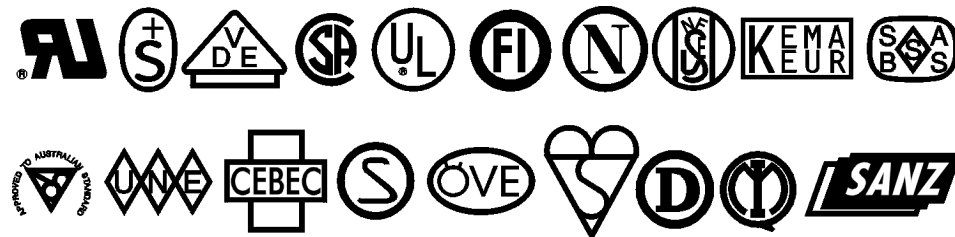

Figure 18. Safety Organization Logos
- The AC power plug and IEC320 connector should bear the certification mark of at least one of the known international safety organization shown in Figure 18.
The print engine uses a metric-style fuse (5 x 20 mm IEC) rated for 5 Amps at 250 Volts that bears the certification mark of a known international safety organization (see Figure 18 on page 69).